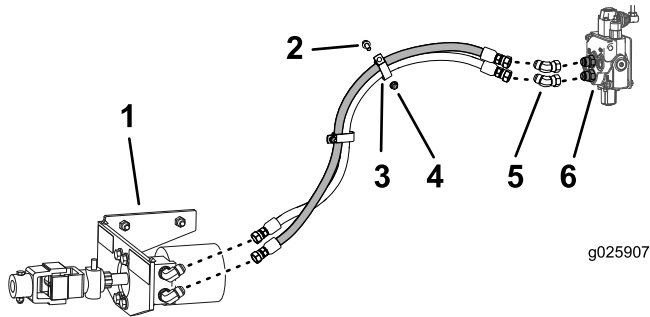

Figure 22
1. Connect the 2 45-degree adapter fittings onto the middle port of the control valve (Figure 22); torque to 81 N-m (60 ft-lb).
2. Route the 2 hoses (95 cm) from the hydra-borer-control valve to the hydra-borer motor as shown in Figure 22.